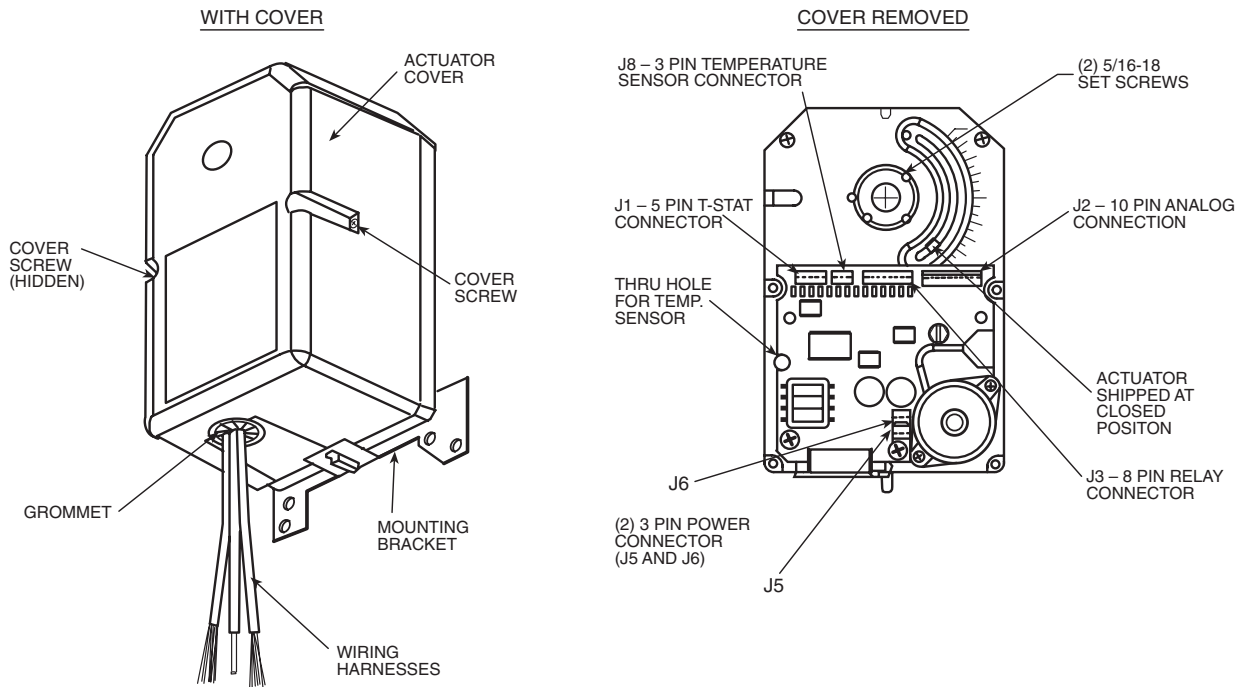

Fig. 1 — High Torque Actuator
3. Remove the actuator cover by loosening the two screws on each side of the cover and pulling the cover up off the actuator body. Save screws. See Fig. 1.
Step 4 — Actuator Wiring — The actuator comes with 3 wiring harnesses attached: the duct sensor with wiring harness, 5-pin thermostat connector (J1), and the 3-pin power harness (J8). See Fig. 1. All connections should be made outside of the actuator body as there is not enough room inside the actuator when the cover is on. There is also the danger that some of the loose wires could get entangled in moving parts inside the actuator housing.